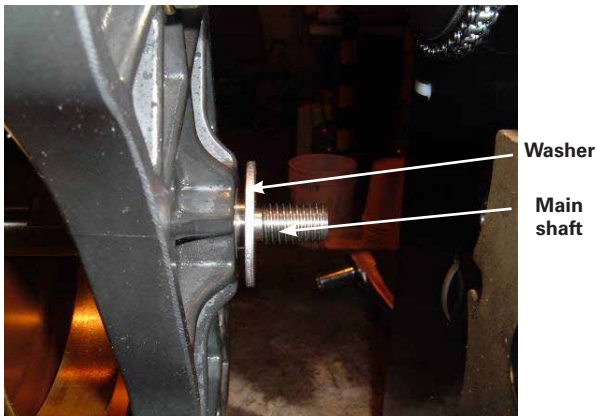

Figure 11.
- Slide the washer onto the main shaft end that was inserted through the movable contact panel (see Figure 11).